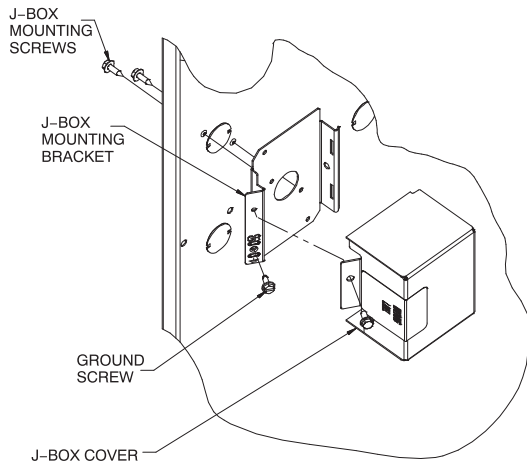

Fig. 34 – Installing J-Box (When Used)
The J-Box cover, mounting bracket and screws are shipped in the loose parts bag included with the furnace. See Fig. 34 for J-Box mounting locations.
1. Drill two (2) 1/8-in. (3 mm) pilot holes through the dimples in the furnace casing near the 7/8-in. knock-out on the side of the casing. Do not remove the knock-out in the side of the casing.
9. Connect field power and neutral leads to furnace power leads inside the external electrical box as shown in Fig. 34.
1. Install J-Box mounting bracket to inside of furnace casing. See Fig. 34.
- Connect field ground wire and factory ground wire to green ground screw on J-Box mounting bracket as shown in Fig. 34.
- Attach furnace J-Box cover to mounting bracket with screws supplied in loose parts bag. Do not pinch wires between cover and bracket. See Fig. 34.
- Install J-Box mounting bracket to inside of furnace casing. See Fig. 34.